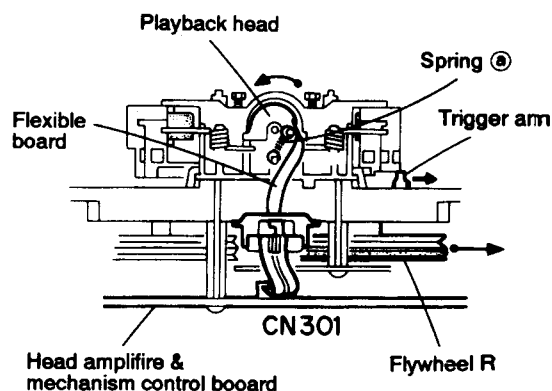
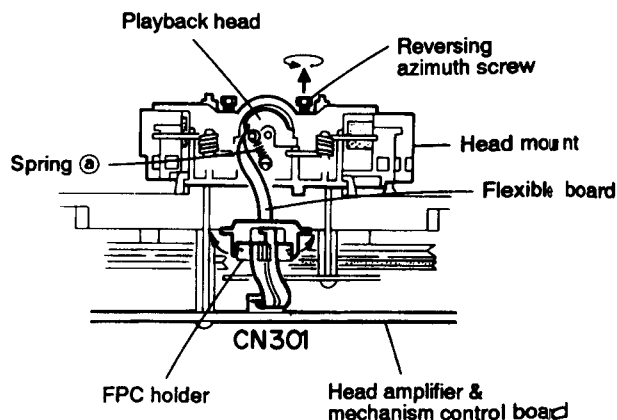

Fig.5-25 (Mechanism A side)
Fig.5-26 (Mechanism B side)
2. When the flywheel R is rotated in counterclockwise direction, the playback head will be turned in counterclockwise direction from the position in Fig. 5-25 to that in Fig. 5-26.
6. Remove the spring ⑥ from behind the playback head.
1. Reassemble the playback head from the front of the head mount to the position as shown in Fig. 5-26.
3. Set the spring ⑥ from behind the playback head.
4. Attach the flexible P.C. board to the chassis base, and fix it with the FPC holder as shown in Fig. 5-26.